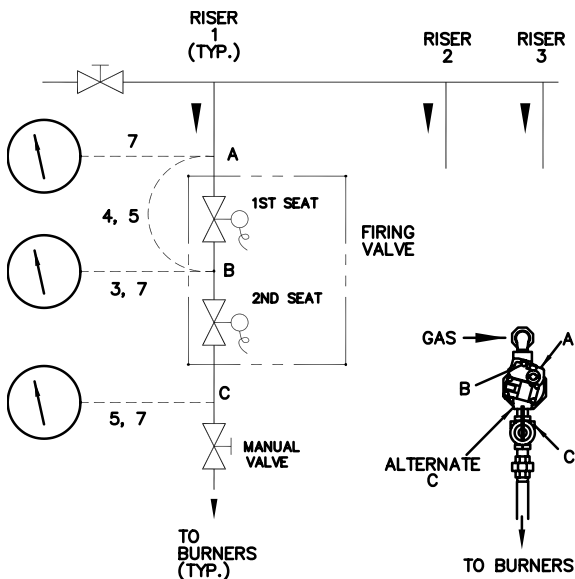

Fig. 36: Leak Test
Refer to Fig. 36. The numbers on the diagram refer to the steps below:
6. Perform leakage test on gas valves. (See Fig. 36.)